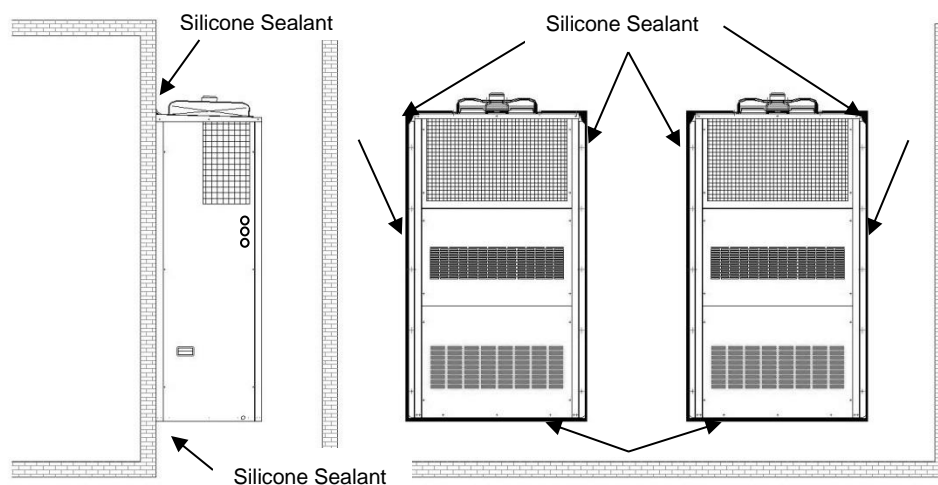

Figure 10: Seal the Joints between WPU's and Wall
In order to prevent moisture from getting in and air leaking out, coat the joint between the rear panel of the unit and the wall with a layer of silicone sealant (installer provided, see Table 5, item 9) as shown in Figure 10.